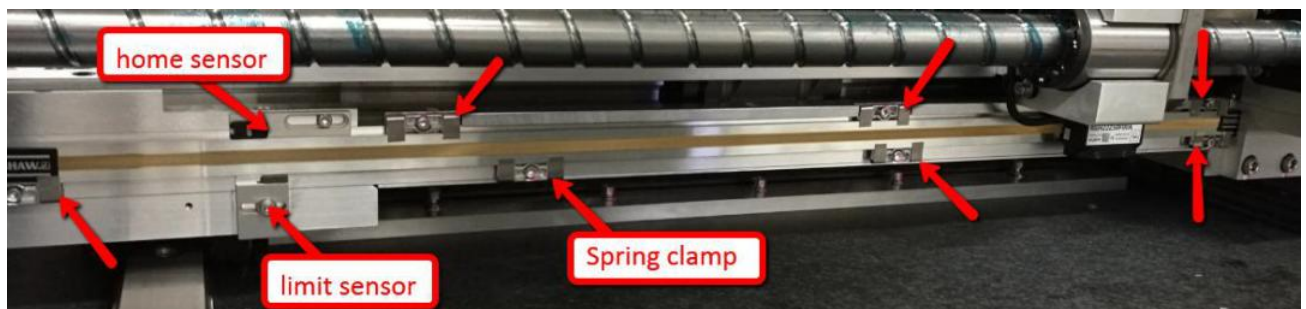

Figure 7 Glass scale replacement
3. Assemble Home Sensor & Limit Sensor by refer to origin location (By refer to Step 3). Tighten all screws which secure spring clamps as shown in Figure 7.